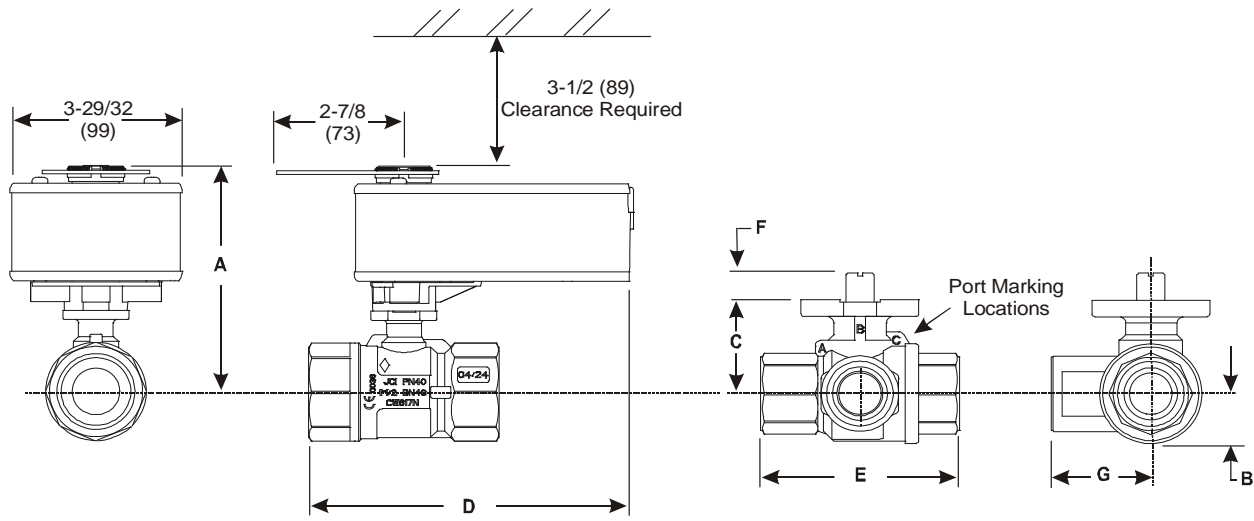

Figure 5: Field Installed M9208 Series Electric Actuator Dimensions, in. (mm)
See Figure 5 and Table 4 for Spring Return M9208 Actuated VG1241, VG1245, VG1841, and VG1845 Series NPT End Connections Ball Valves.
1. Port A must always be connected to the coil (Figure 5).